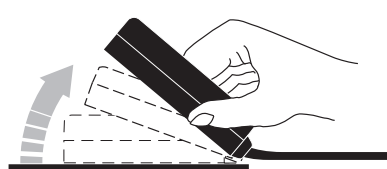

Fig. 2
- Abkippen (Fig. 2)
- By tipping (Fig. 2) and
- Penchez (Fig. 2) et